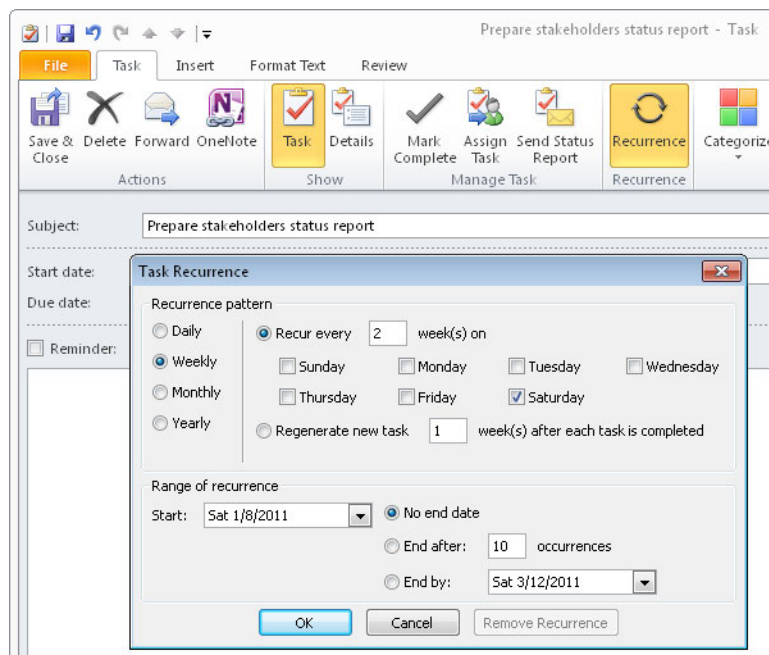

FIGURE 11-3 You can select an option to specify how many times a task occurs.
7. In the Range Of Recurrence section, you can keep the No End Date option selected, as shown in Figure 11-3, to receive reminders until you decide to delete the task. If you're certain that the project will end when you expect, you can choose either the End After . . . Occurrences option when you know the number of occurrences or the End By option when you know the last date for the task to occur.